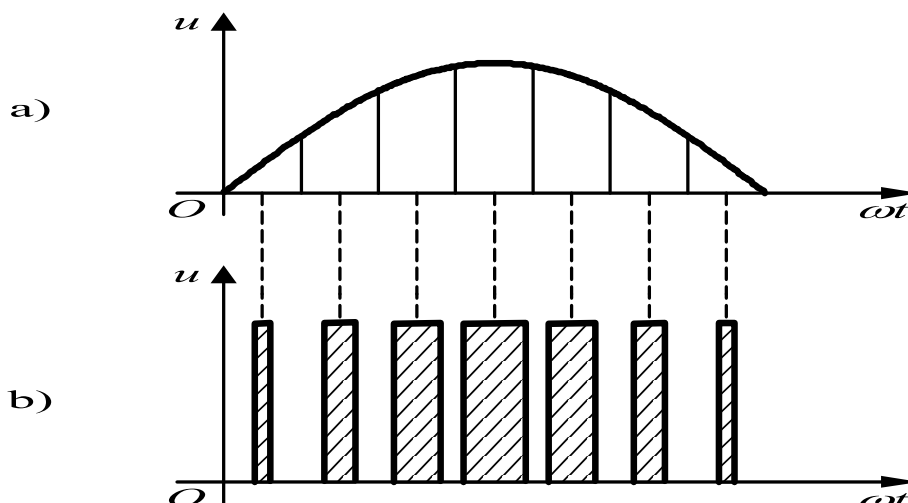

Figure 2-2 PWM wave brings sine wave
**Using series pulse with same amplitude and different width to replace a half sine wave---** this half sine wave is divided into  $N$  with same width and different amplitude, and is instead by rectangular pulse with same amplitude and different width. The midpoints are coincidence, the area (impulse) is equal, and the width changes according to sine rule. PWM waveform is that, pulse width changes according to sine rule and the waveform is equal to sine wave. The amplitude of sine waveform will change by modulating pulse width in proportion. As shown in Figure 2-2.